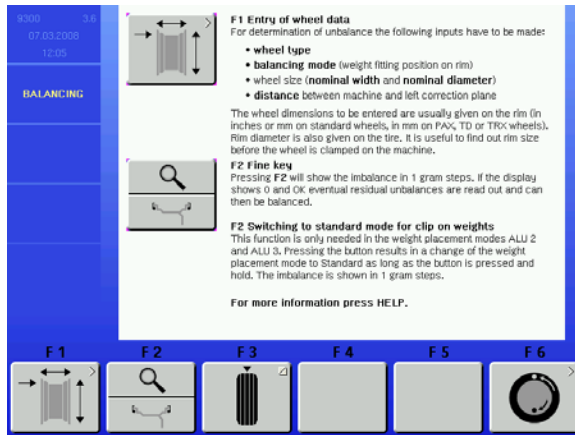

Figure 15
- Press the HELP key (See Figure 15)